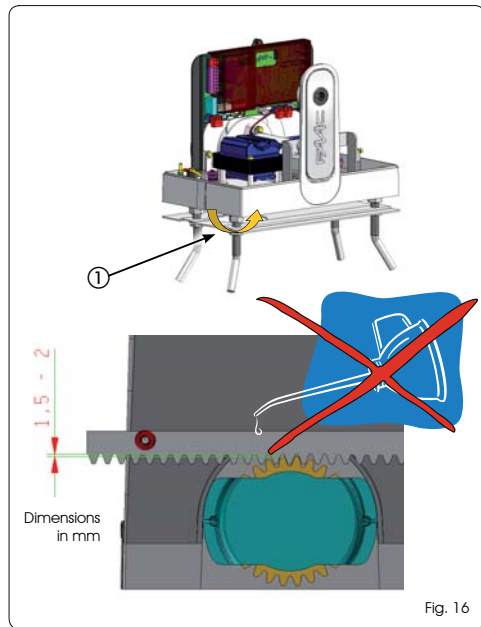

Fig. 16
-  **When the rack has been installed, to ensure it meshes correctly with the pinion, we advise you to lower the gearmotor position by about 1.5 - 2 mm by adjusting the nuts (Fig.16 re. ①).**
-  **Do not use grease or other lubricants between rack and pinion (Fig. 16)**